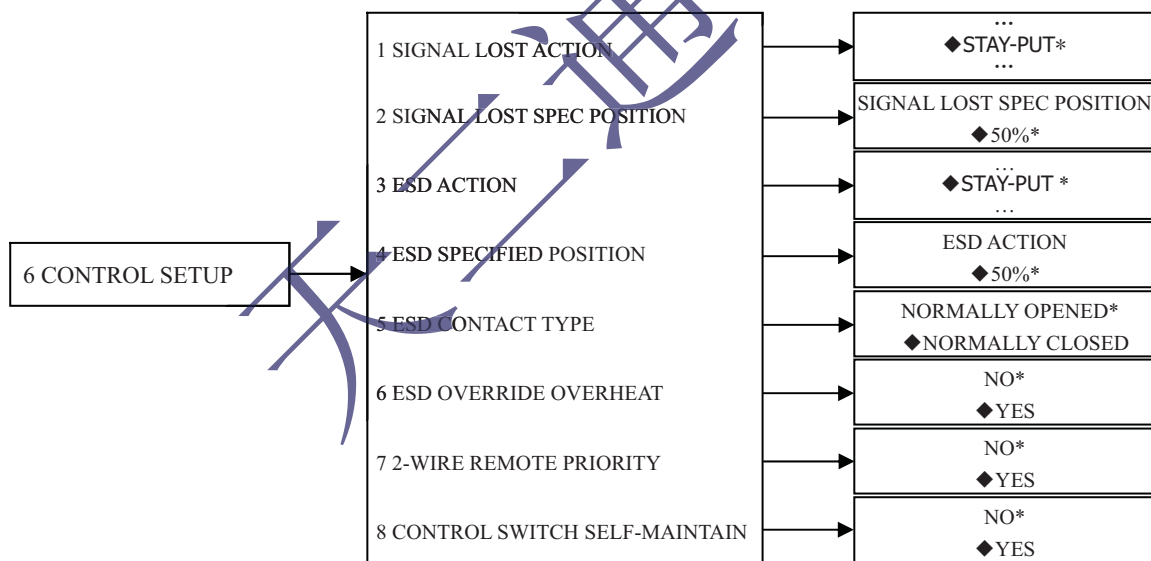

Fig.10
4.7 Control setup (see Fig.10)